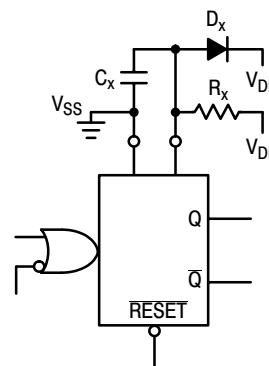

Figure 11. Use of a Diode to Limit Power Down Current Surge
- If C_X > 15 μF, use discharge protection diode per Fig. 11.
When a more rapid decrease of V_{DD} to zero volts occurs, the MC14538B can sustain damage. To avoid this possibility use an external clamping diode, D_X , connected as shown in Fig. 11.